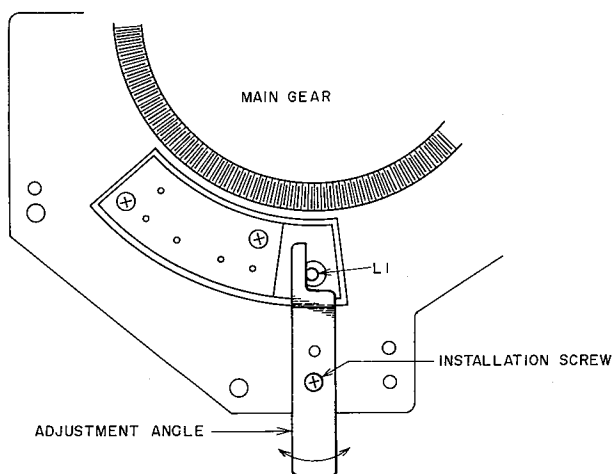

Fig. 43
- 5) Adjust VR1, adjusting while repeating items 3) and 4) until the first lead-in position and the repeat lead-in position are the same.
6. Angle Installation Position Adjustment (Refer to Figs. 43, 44)